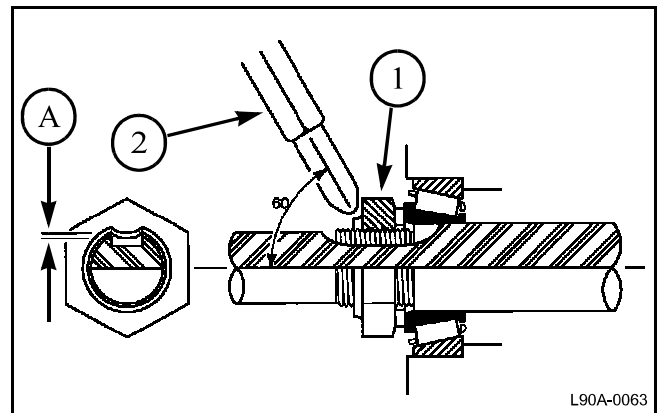

FIG. 142
FIG. 142: Stake the collar of the pinion nut (1) to the depth (A) of 0.75 to 1.25 mm (0.03 to 0.05 in). Driving the collar to the bottom of the groove will damage the collar of the stake nut. Use an 11 mm (0.438 in) diameter punch (2) that has a spherical end.